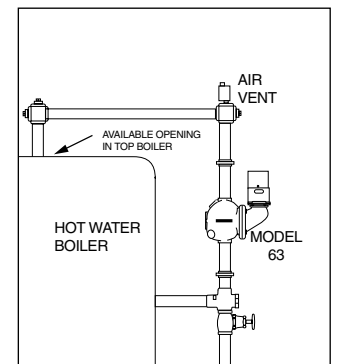

Figure 2
**Figure 2.** If there is a tapping available on the top of the boiler, connect the upper equalizing pipe to it. **NOTE:** During initial filling or after blow-down the upper equalizing pipe and possibly the 63 control will have an air pocket. Connect a vent or bleed valve on the top of the vertical equalizing pipe. If the Test-N-Check (TC-4) valve is used the vacuum breaker can be used to bleed the air pocket.